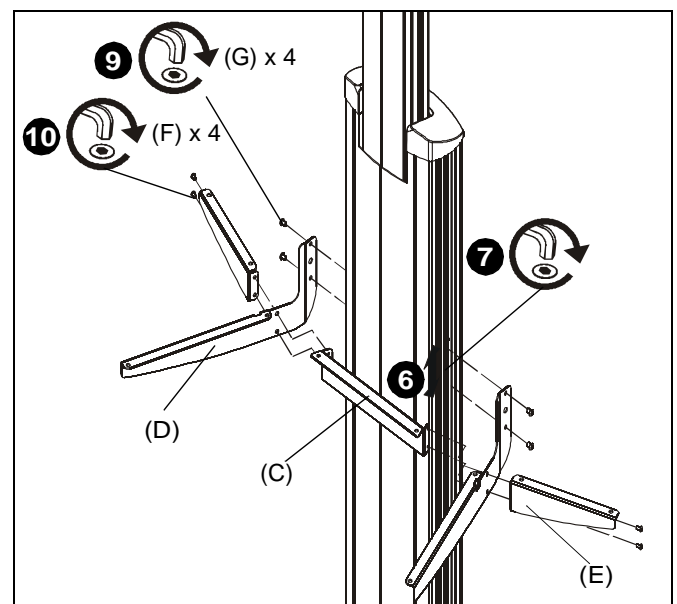

Figure 3
6. Slide accessory bracket (B) up or down in side channel until desired mounting height is reached. (See Figure 3)
7. Tighten set screw (H) to lock bracket in position. (See Figure 3)
9. Use four 1/4-20 x 3/8" button head cap screws (G) to secure right and left shelf supports (D and E) to adapter bracket (C). (See Figure 3)
10. Use four #10-24 x 3/8" button head cap screws (F) to secure right and left shelf supports (D and E) to center support bracket. (See Figure 3)